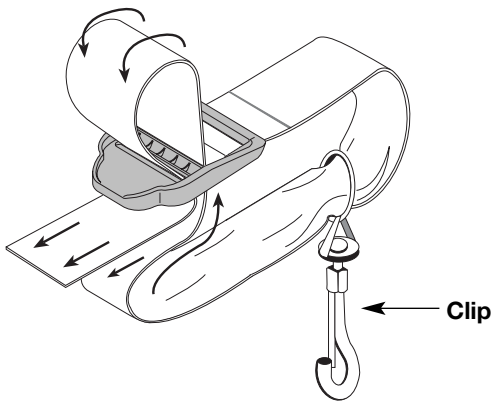

Fig. 6
2. Pull the strap over the cross bar and down through the slot in the buckle (Fig.6).